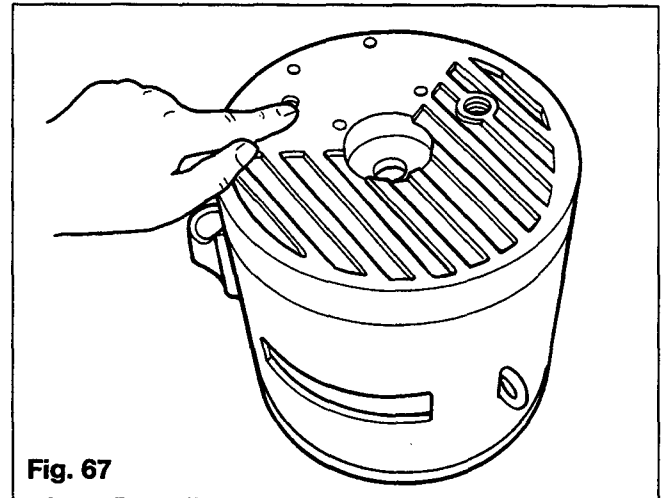

Fig. 67
10. Install end cap. Tapped holes for screws around the O.D. of end cap must be aligned with corresponding holes in the housing. When the end cap is properly aligned, use a soft hammer to tap it into the housing. Make sure control kit mounting holes are at the top of the unit (Figure 67).